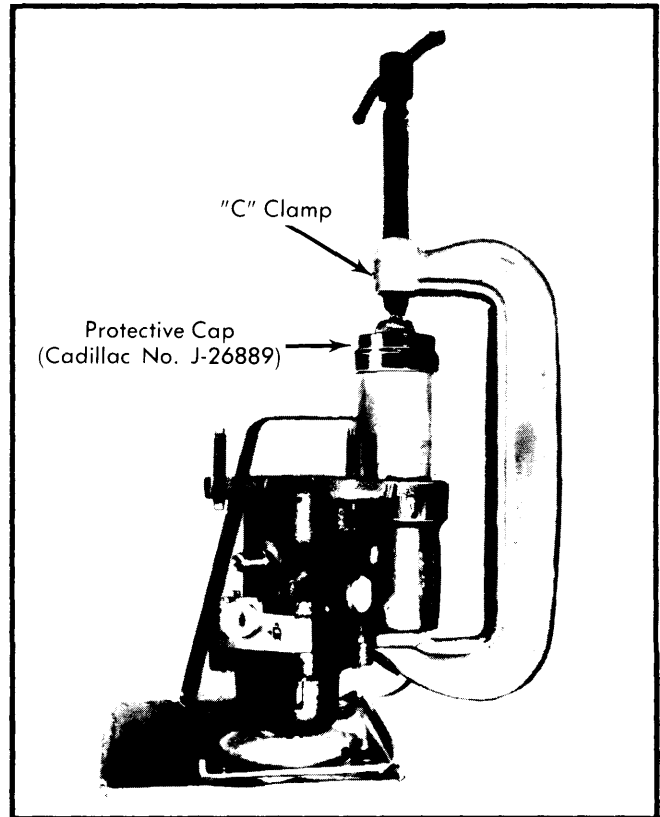

Fig. 13 Installation of Clamp and Protective Cap for Removal of Accumulator Can (Cadillac Shown)
3) Place a protective cap (Cadillac No. J-26889) over accumulator and install a large clamp to accumulator and housing. See Fig. 13. Then proceed as follows: